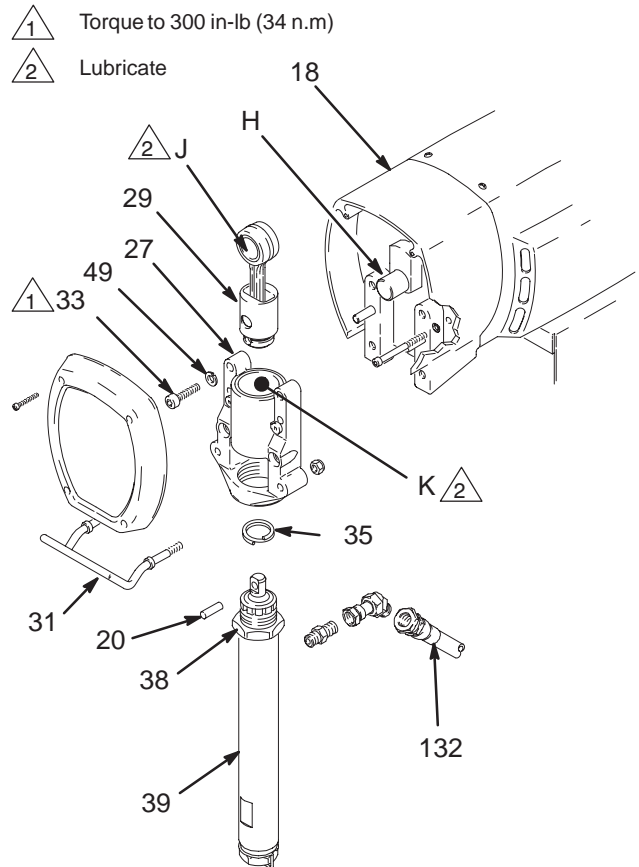

Fig 18
2. Remove front cover (31). Remove bearing housing screws (33). See Fig. 18 and part list.
3. Tap lower rear of bearing housing (27) with plastic mallet to loosen it from drive housing (18). Pull bearing housing and connecting rod (29) straight off drive housing.
4. Inspect crank (H) for excessive wear and replace parts as needed.
5. Evenly lubricate inside of bronze bearing (K) with motor oil. Liberally pack roller bearing (J) with bearing grease.
6. Assemble connecting rod (29) and bearing housing (27).
8. Align connecting rod with crank (H) and align locating pins in drive housing with holes in bearing housing (27). Push bearing housing onto drive housing or tap into place with plastic mallet.
9. Install bearing housing screws (33). Torque evenly to 300 in-lb (34 N.m).